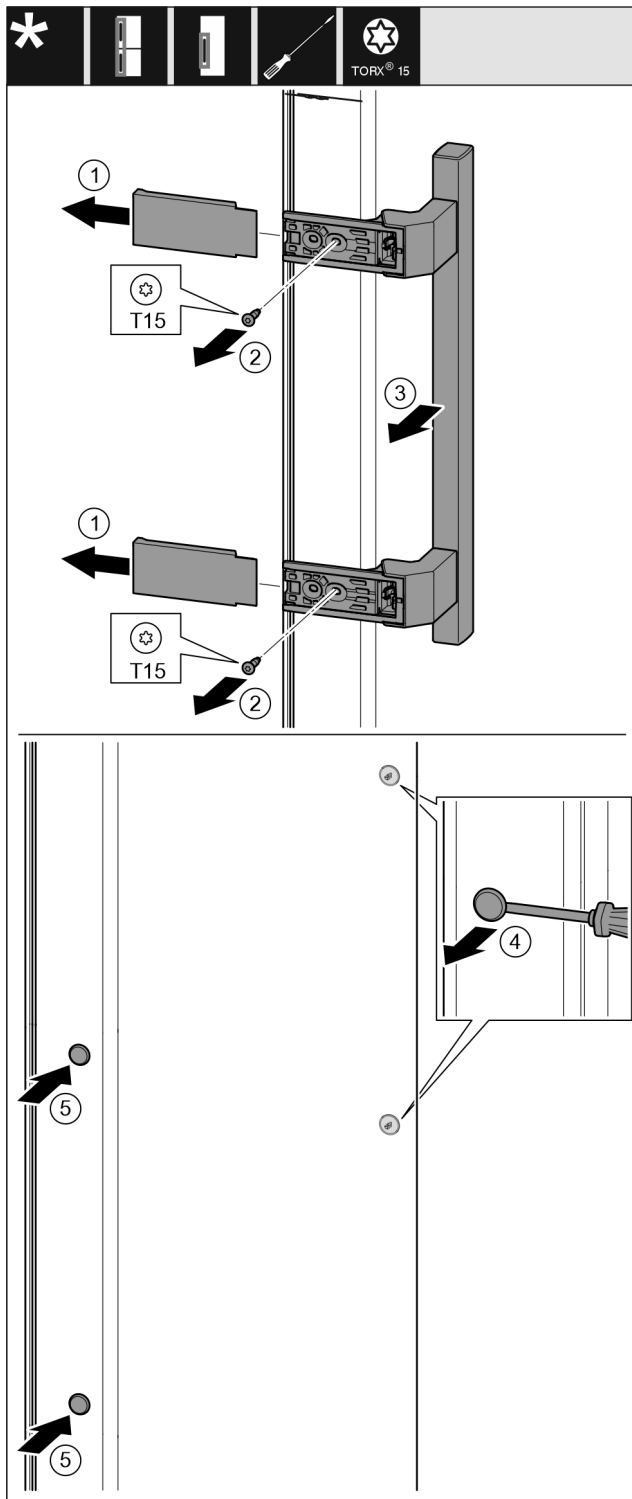

Fig. 10
- Pull off the cover. Fig. 10 (1)
- Unscrew the screws with a Torx 15 screwdriver. Fig. 10 (2)
- Take off the handle. Fig. 10 (3)
- Carefully lift the side plug with a slotted screwdriver and pull it out. Fig. 10 (4)
- Replace the plug on the other side. Fig. 10 (5)